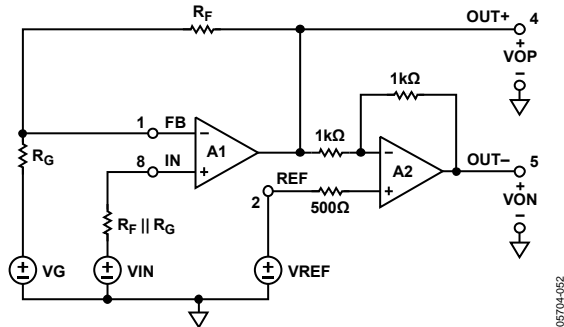

Figure 48. Basic Connections (Power Supplies Not Shown)
The ADA4941-1 is a low power, single-ended input, differential output amplifier optimized for driving high resolution ADCs. Figure 48 illustrates how the ADA4941-1 is typically connected. The amplifier is composed of an uncommitted amplifier, A1, driving a precision inverter, A2. The negative input of A1 is brought out to Pin 1 (FB), allowing for user-programmable gain. The inverting op amp, A2, provides accurate inversion of the output of A1, VOP, producing the output signal VON.
In Figure 48, RG and RF form the external gain-setting network. VG and VREF are externally applied voltages. VO, cm is defined as the output common-mode voltage and VO, dm is defined as the differential-mode output voltage. The following equations can be derived from Figure 48: